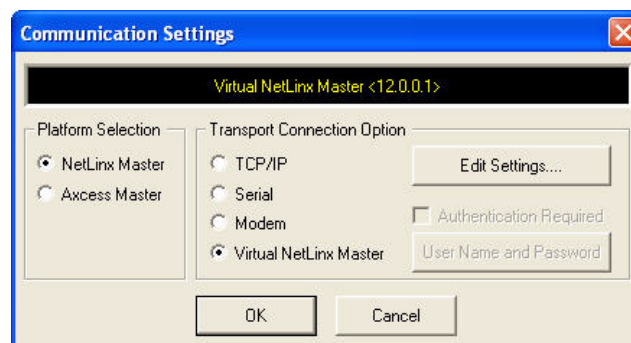

FIG. 99 Communications Settings dialog box
2. Click the **Communications Settings...** button to open the *Communications Settings* dialog box (FIG. 99).